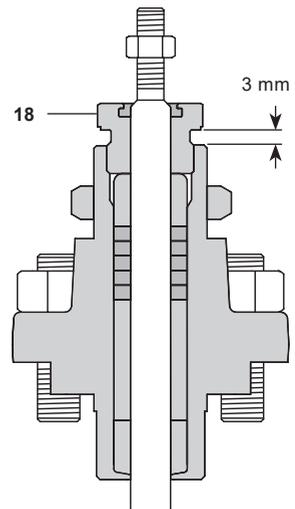

Fig. 18
- Lift out the seat retaining cage (5) followed by the seat (6). Don't damage the seat during dis-assembly.
- Remove the seat gasket (7) and carefully dispose of.
- Examine the seat and plug/stem assembly for damage or deterioration and renew as necessary. For C Seat option reverse the seat. For extended option DN15-100 plug/stem assembly should be screw and set according to dimension Fig. 18.